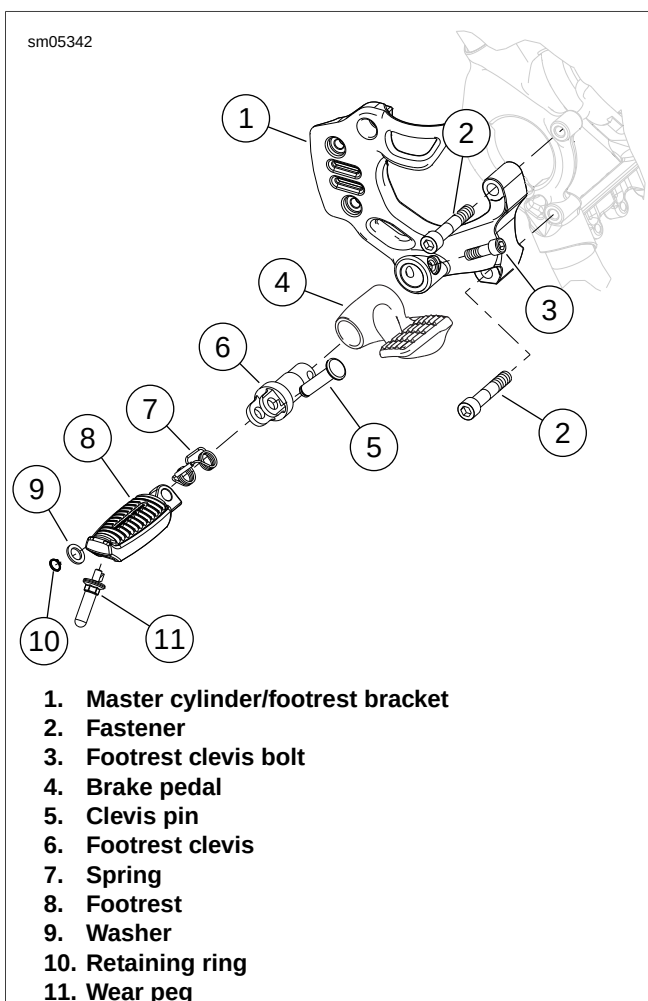

Figure 2-260. Rider Foot Control, Right Side: XR Models
3. If necessary, remove wear peg (11).
4. See Figure 2-260. Remove retaining ring (10) and washer (9). Discard retaining ring.
5. Remove clevis pin (5), spring (7), and footrest (8).
6. Remove bolt (3), footrest clevis (6), and brake pedal (4).
7. If necessary, remove bracket (1). The master cylinder must be disconnected from the bracket or brake line disconnected prior to removing the two fasteners (2). See 2.14 REAR BRAKE MASTER CYLINDER: XR MODELS.
2. See Figure 2-260. Install brake pedal on footrest clevis and install footrest clevis. Tighten bolt (3) to 20-24 ft-lbs (27.1-32.5 Nm).
3. Install footrest (8) and spring (7) on clevis and secure with clevis pin (5). Install washer (9) and **new** retaining ring (10).